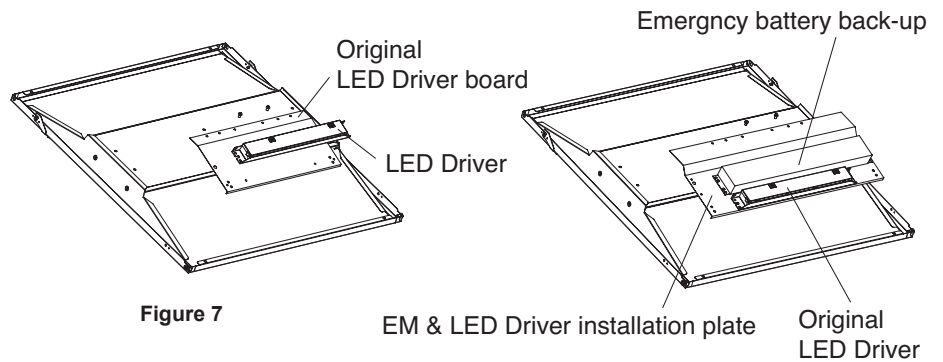

Figure 7
1. Remove the fixture LED driver and original driver board. (See Fig. 7)
2. Install the EM and original LED driver to the provided installation plate. (See Fig. 7)